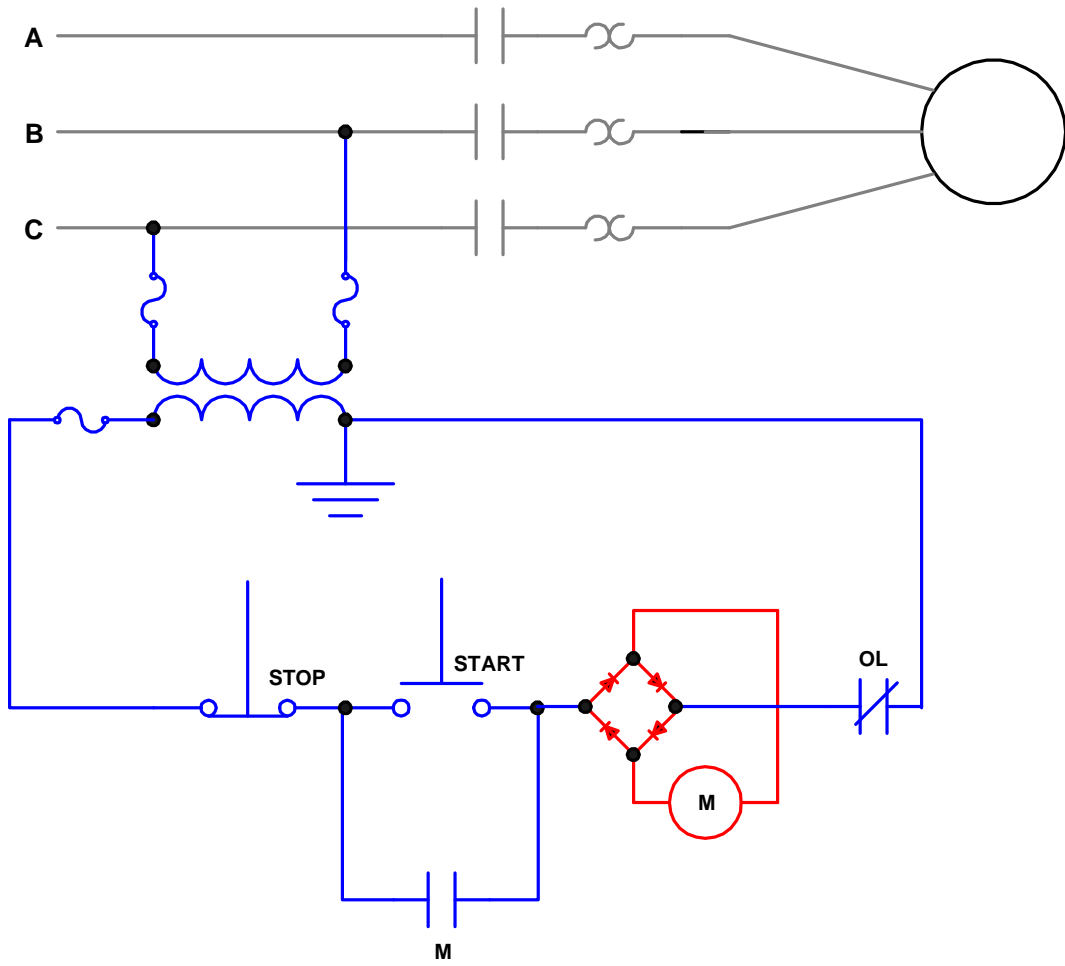

Figure 2. Using a dc coil in the starter to improve the voltage sag ride through.
- a. Use a dc coil, instead of an ac coil. By inserting a dc coil in the circuit (Figure 2), ride through of the starter can be achieved down to about 10% voltage. The starter should only drop out for actual interruptions.